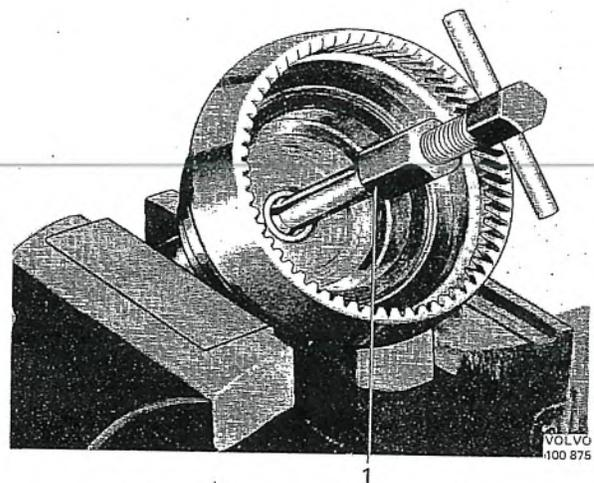

Fig. 4-41. Removing bush, output shaft
- Remove the circlip and the oil thrower, which hold the uni-directional clutch on the output shaft. Lift out the uni-directional clutch components. Remove the thrust washer. If necessary pull the bush on the output shaft out with puller 2423, see Fig: 4-41.